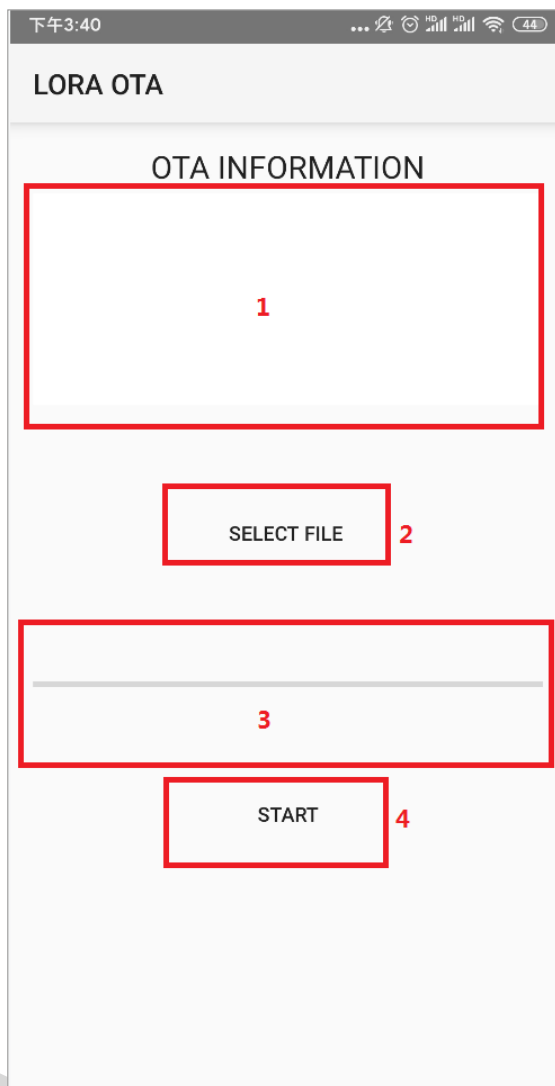

Figure 2-2 LoRa OTA APP Main Interface
Explanations about the red marks in Figure 2-2:
(1) Click the “SELECT FILE” button in Figure 2-2 and you can see below interface: